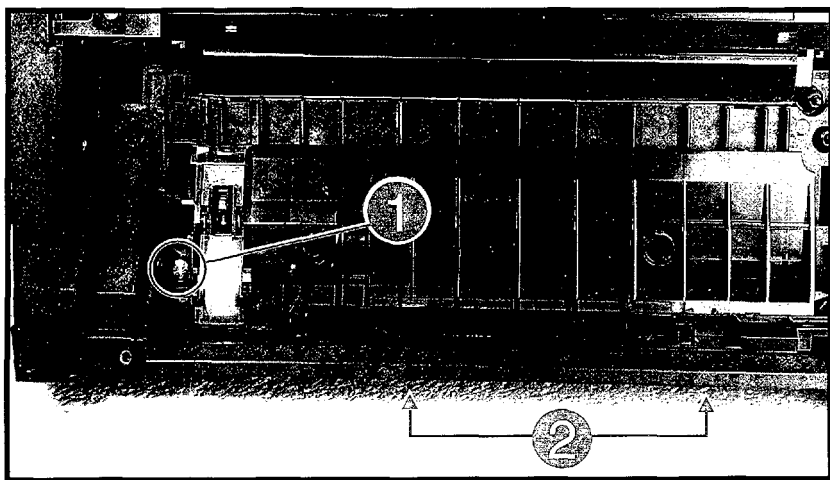

Figure 6-24 Removing the Paper Guide/Roller Assembly
Note	It is not necessary to remove the Printer Cover, although the front alignment tabs (Figure 6-24, callout 2) are more easily accessible with the cover removed.
1. Remove the (1) self-tapping screw on the left side of the assembly (Figure 6-24, callout 1).
2. Lift the rear of the assembly while pushing down at the front, and pull it to the rear slightly (this releases the tabs - Figure 6-24, callout 2).